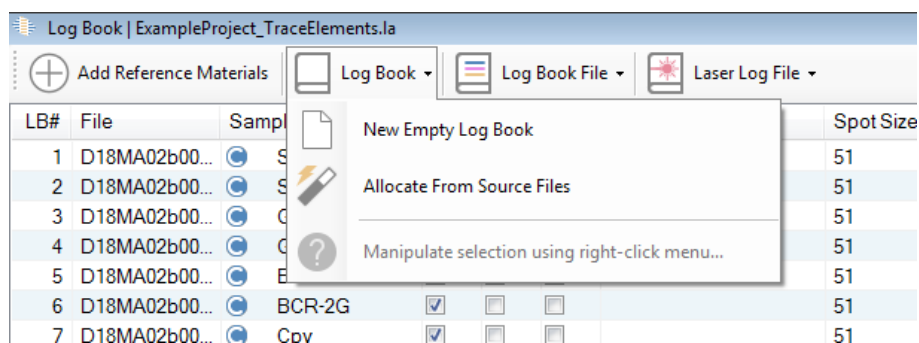

Figure 19: The Log Book drop-down menu.
- LogBook menu (see Figure 19):